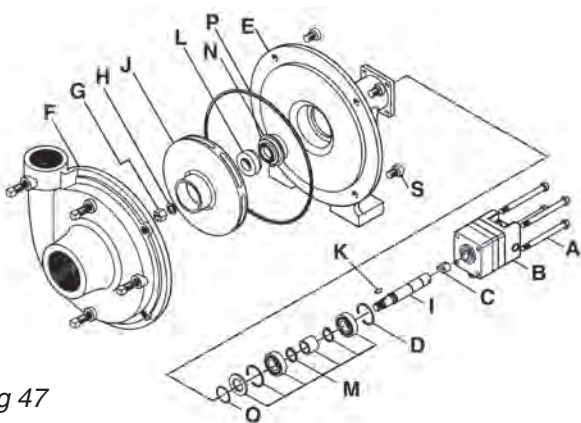

Fig 47
- 1 Remove screws (A Fig 47), motor (B) and coupler (C).
- 2 Remove rear bearing snap ring (D), four screws (S) from mounting frame (E), and volute (F).
- 3 Remove lock nut (G) and washer (H) from shaft (I).
- 4 Carefully hold impeller vane (J) stationary, and press shaft out of impeller using one of the long hex screws.
- 5 Remove impeller, key (K) and rotating seal member (L). Press shaft (with bearings (M)) assembly out of frame.
- 6 Remove stationary seal member (N) and O-ring (O) from shaft groove.